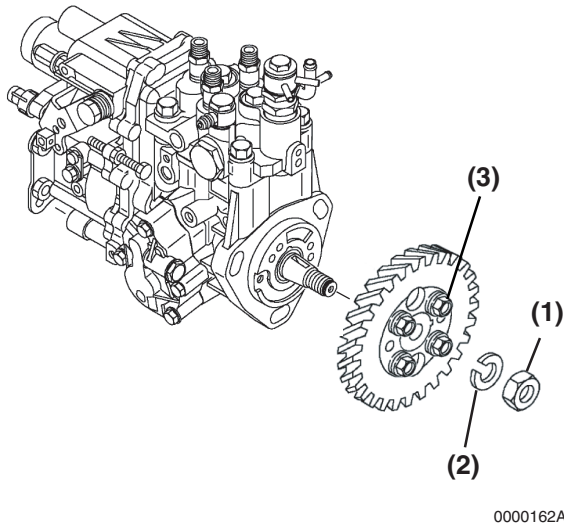

Figure 7-12
18. Do not loosen or remove the four bolts (Figure 7-12, (3)) retaining the pump drive gear to the hub. Only remove the single drive gear nut (Figure 7-12, (1)) and washer (Figure 7-12, (2)), leaving the hub attached to the gear.
19. Hold the gear train using a large socket wrench on the crankshaft pulley nut. Loosen the fuel injection pump drive gear retaining nut (**Figure 7-12, (1)**) and turn it out to the end of the fuel injection pump shaft.